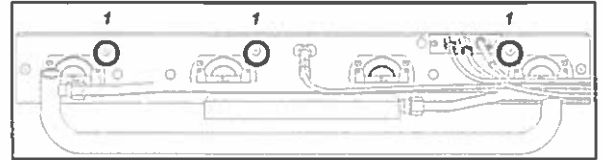

FIG.17 (REPLACEMENT DU BRÛLEUR D'ALLUMAGE)
- DÉVISSER LES 3 VIS DE FIXATION DES SUPPORTS DU BRÛLEUR (FIG.17-RÉF.1);